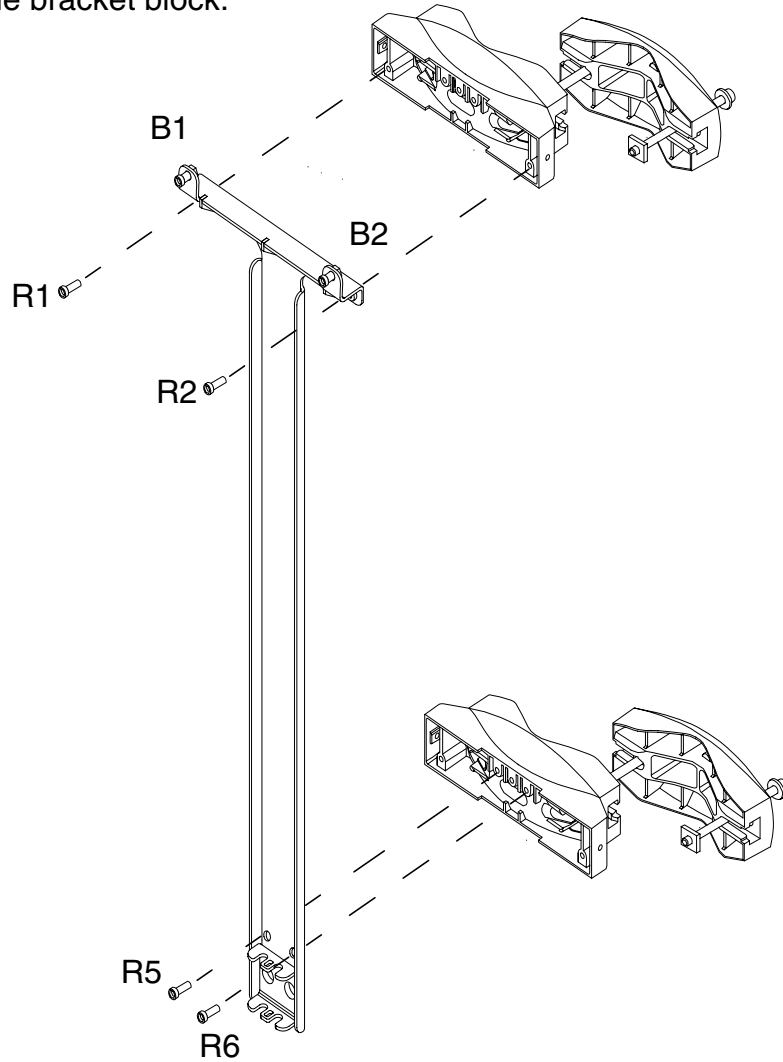

Figure 10. Attaching the mounting rack and the pole brackets
1. To fix the upper pole bracket to the mounting rack, screw the M6 x 20 Allen screws through holes R1 and R2 into the upper front block, as shown in Figure 10. Make sure that the front block is the correct way up (the set of three adjacent screw holes on the back of the block should be on the upper edge). Use a torque driver with a 4 mm Allen bit to tighten the screws to 5.5 Nm (4.06 lb ft).
2. To fix the lower pole bracket to the mounting rack, screw the M6 x 20 Allen screws through holes R5 and R6 into the lower front block, as shown in Figure 10. Make sure that the three adjacent screw holes are on the upper edge of the block. Use a torque driver with a 4 mm Allen bit to tighten the screws to 5.5 Nm (4.06 lb ft).